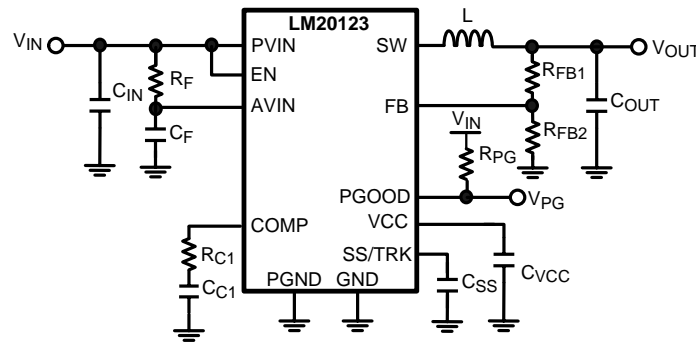

Figure 25. Typical Application Circuit
The LM20123 switching regulator features all of the functions necessary to implement an efficient low voltage buck regulator using a minimum number of external components. This easy to use regulator features two integrated switches and is capable of supplying up to 3A of continuous output current. The regulator utilizes peak current mode control with nonlinear slope compensation to optimize stability and transient response over the entire output voltage range. Peak current mode control also provides inherent line feed-forward, cycle-by-cycle current limiting and easy loop compensation. The fixed 1.5 MHz operating frequency minimizes the inductor size while still achieving efficiencies up to 96%. The precision internal voltage reference allows the output to be set as low as 0.8V. Fault protection features include: current limiting, thermal shutdown, over voltage protection, and shutdown capability. The device is available in the HTSSOP 16-Pin package featuring an exposed pad to aid thermal dissipation. The LM20123 can be used in numerous applications to efficiently step-down from a 5V or 3.3V bus. The typical application circuit for the LM20123 is shown in Figure 25 in the design guide.
This section walks the designer through the steps necessary to select the external components to build a fully functional power supply. As with any DC-DC converter numerous trade-offs are possible to optimize the design for efficiency, size, or performance. These will be taken into account and highlighted throughout this discussion. To facilitate component selection discussions the circuit shown in Figure 25 below may be used as a reference. Unless otherwise indicated all formulas assume units of amps (A) for current, farads (F) for capacitance, henries (H) for inductance and volts (V) for voltages.
To prevent high frequency noise spikes from disturbing the sensitive analog circuitry connected to the AVIN and AGND pins, a high frequency RC filter is required between PVIN and AVIN. These components are shown in Figure 25, as C_F and R_F . The required value for R_F is 1Ω. C_F must be used. Recommended value of C_F is 1.0 μF. The filter capacitor, C_F should be placed as close to the IC as possible with a direct connection from AVIN to AGND. A good quality X5R or X7R ceramic capacitor should be used for C_F .